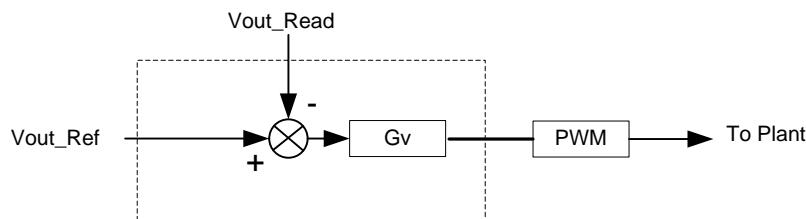

Figure 6. Output Voltage Control
1. Output voltage control (Figure 6)
For controlling the output voltage, the control scheme shown in Figure 6 is used. The output voltage is sensed (V_{out}) and compared with the reference value (V_{out_ref}), and the 2p2z compensator calculates the effort needed. The voltage controller is executed at a rate of 83 kHz (one-third of the PWM switching frequency).